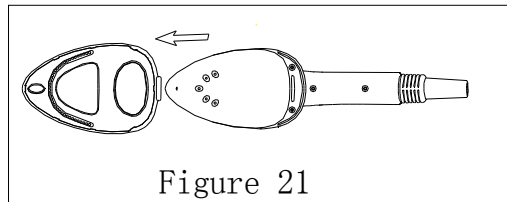

Figure 21
- A. Use your finger to push the back of the fabric brush to unlock it.(figure 21)